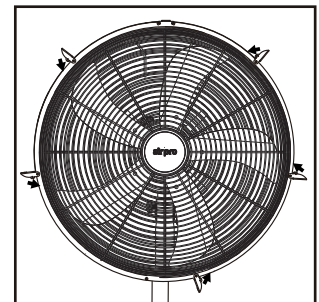

Figure 14
16.Secure the grills completely together by snapping the 5 grill clips into place. Figure 14.